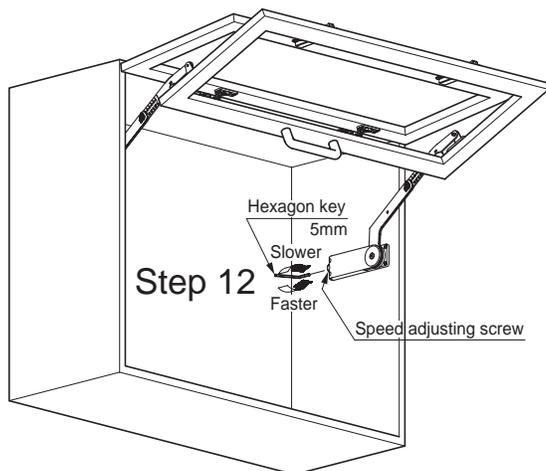

Fig. 11 Adjustment of door closing speed
Step 12. Adjust the door closing speed with the speed adjusting screw of the body backside. Speed adjustment is carried out with the 5mm Hexagon key. (Fig.11)